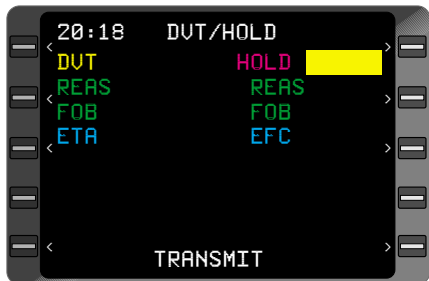

Figure 8-24
3. **ENTER** Key - DEPRESS. The **DVT/HOLD** Page is displayed. See Figure 8-24.